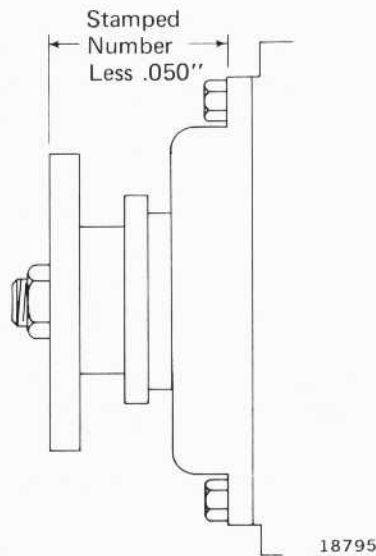

Fig. 14 - Auxiliary Generator Drive Thrust Measurement
2. Subtract .050" from the number stamped on the support housing and adjust the position of the auxiliary generator to establish this dimension, Fig. 14.